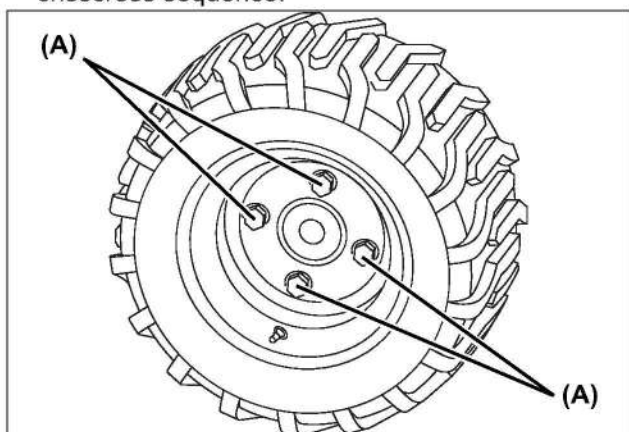

Fig 12-1
- Tighten the front wheel bolts (Fig 12-1, A) in a crisscross sequence.